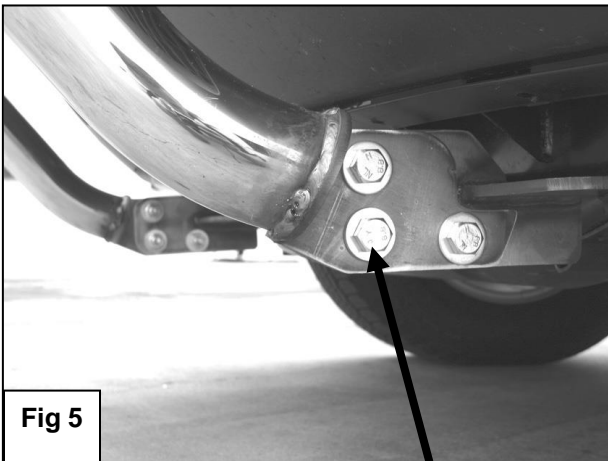

Fig 5
- With help position the Sport Bar on the outer side of Mounting Brackets. Attach Sport Bar to Mounting Brackets using the included (6) 12mm x 30mm Hex Head Bolts, (6) 12mm Nylock Nuts, and (12) 12mm Flat Washers (**Figure 5**).